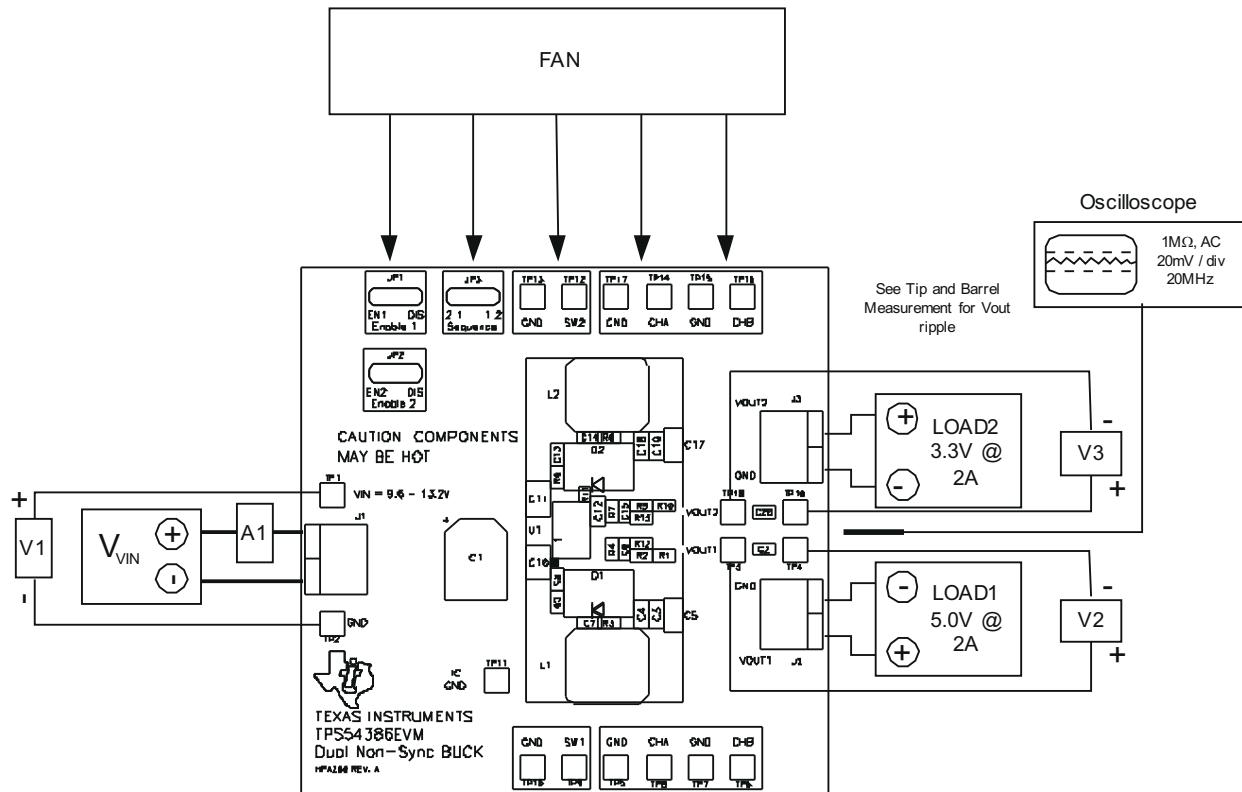

Figure 4-1. TPS54386EVM Recommended Test Set-Up
Shown in Figure 4-1 is the basic test set up recommended to evaluate the TPS54386EVM. Please note that although the return for J1, J2 and JP3 are the same system ground, the connections should remain separate as shown in Figure 4-1.
2. Prior to connecting the dc input source, VIN, it is advisable to limit the source current from VIN to 5.0 A maximum. Make sure VIN is initially set to 0 V and connected as shown in Figure 4-1.
3. Connect the ammeter A1 (0-5 A range) between VIN and J1 as shown in Figure 4-1.
4. Connect voltmeter V1 to TP1 and TP2 as shown in Figure 4-1.
5. Connect LOAD1 to J2 as shown in Figure 4-1. Set LOAD1 to constant current mode to sink 0 A_{DC} before VIN is applied.
6. Connect voltmeter, V2 across TP3 and TP4 as shown in Figure 4-1.
7. Connect LOAD2 to J3 as shown in Figure 4-1. Set LOAD2 to constant current mode to sink 0 A_{DC} before VIN is applied.
8. Connect voltmeter, V3 across TP18 and TP19 as shown in Figure 4-1.
9. Place fan as shown in Figure 4-1 and turn on, making sure air is flowing across the EVM.